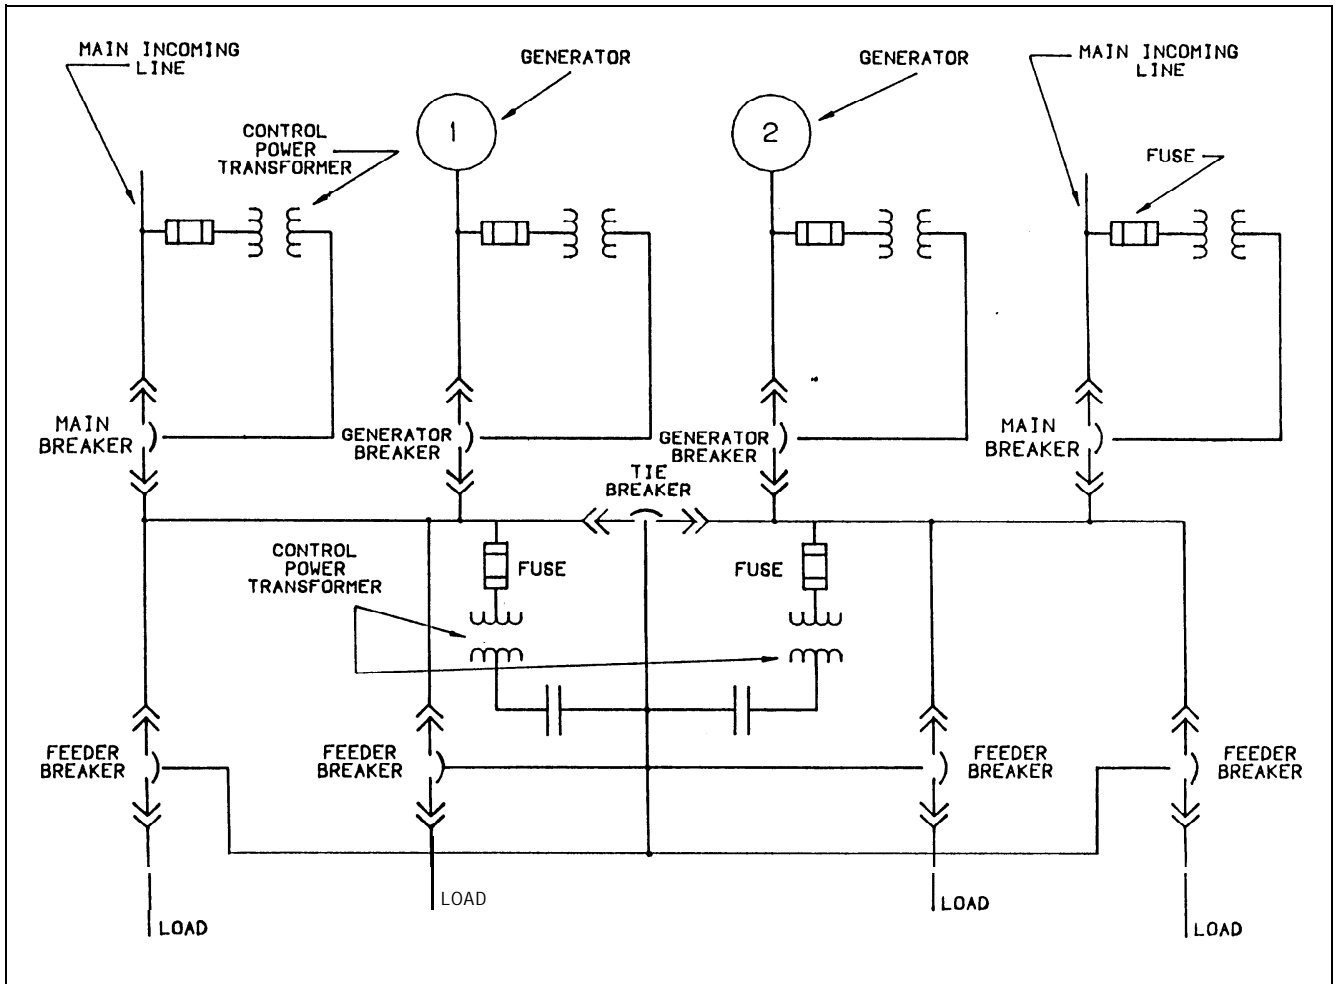

Figure 5-7. AC control circuits with tie circuit breaker.
(2) *Tie breaker control circuits.* In systems using a tie breaker, the control power for the tie breaker and the feeder breakers is supplied through a throw-over scheme so control power is available if either side of the tie breaker is energized (see fig 5-7). In applications that require synchronizing circuitry, the running and incoming control buses are usually supplied via the potential transformers. The transformer primaries are connected to both the line side and the load side of the circuit breakers that are used for synchronizing. The transformer